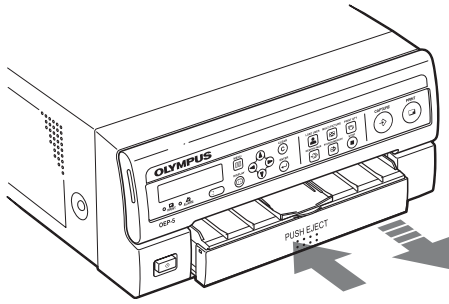

Figure 3.11
- 1 Press the “PUSH EJECT” area of the paper tray and take out the paper tray from the color video printer (OEP-5) (see Figure 3.11).